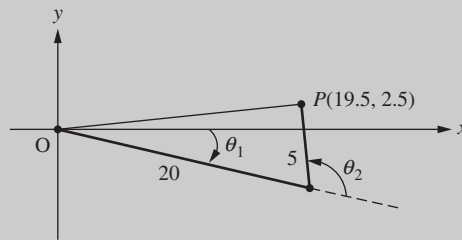

Figure 3.35 Ankle-up position.
- (b) Now suppose that the same leg is positioned such that the tip of the toes is located in the first quadrant and oriented in the ankle-up position (counter-clockwise direction) as shown Fig. 3.35. If the end of the toes is located at $P(x, y) = (19.5 \text{ in.}, 2.5 \text{ in.})$, determine the values of θ_1 and θ_2 .